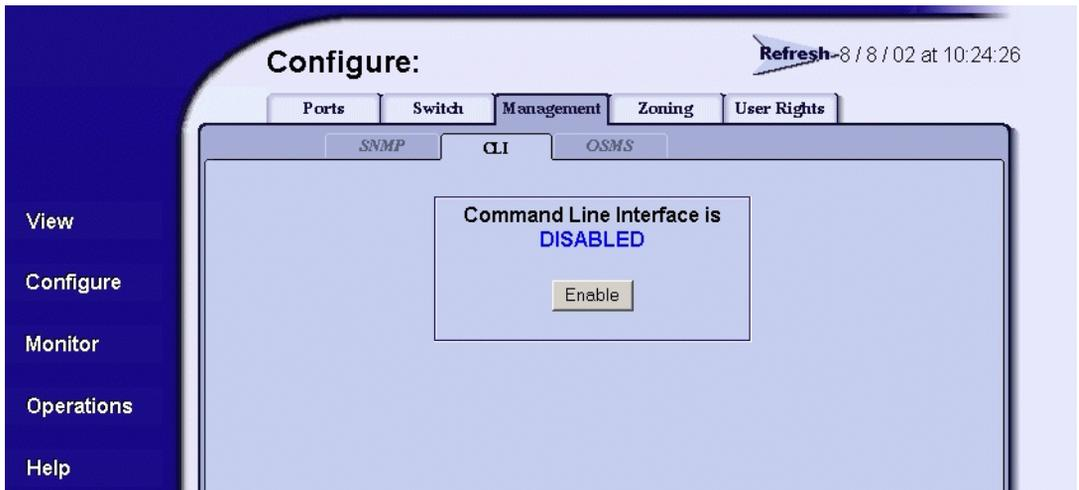

Figure 2–9: Disabling the CLI
2. Click the **Management** tab and the **CLI** tab. The **CLI** tab view displays (Figure 2–9).